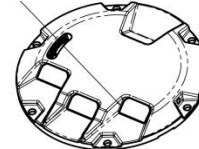

Figure 5-22
- After the gasket sleeve is placed, check whether it is exposed at the window. In case of much exposed, it shall be reloaded according to the above-mentioned process. In case of a small part exposed, cut it with a knife (Figure 5-22).